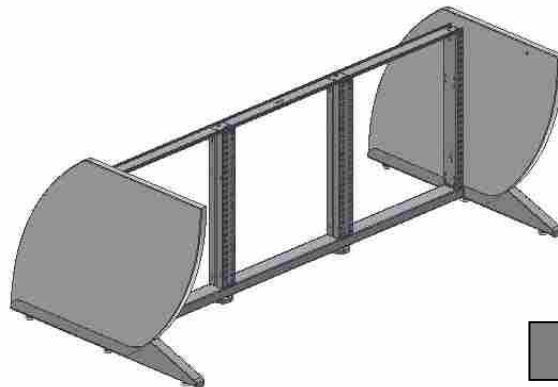

Fig 2
STEP 1. – Assemble the **console structure**, i.e. **console base frame** with **agglomerate console sides** (Fig.2) or **standard metal TL-TW sides** (Fig. 3).